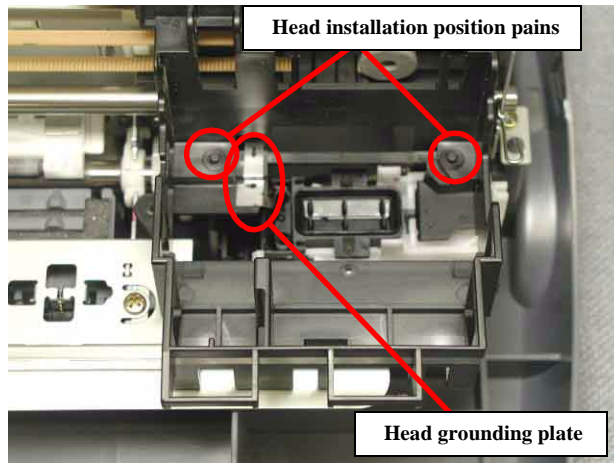

Figure 4-9. Printhead installation position
- Make sure to fit two holes of the Printhead to the installation position pins correctly. (Refer to Figure 4-9)
- ❑ If you remove the Printhead from the CR unit, make sure that the Head grounding plate is set in the CR unit. (Refer to Figure 4-9)